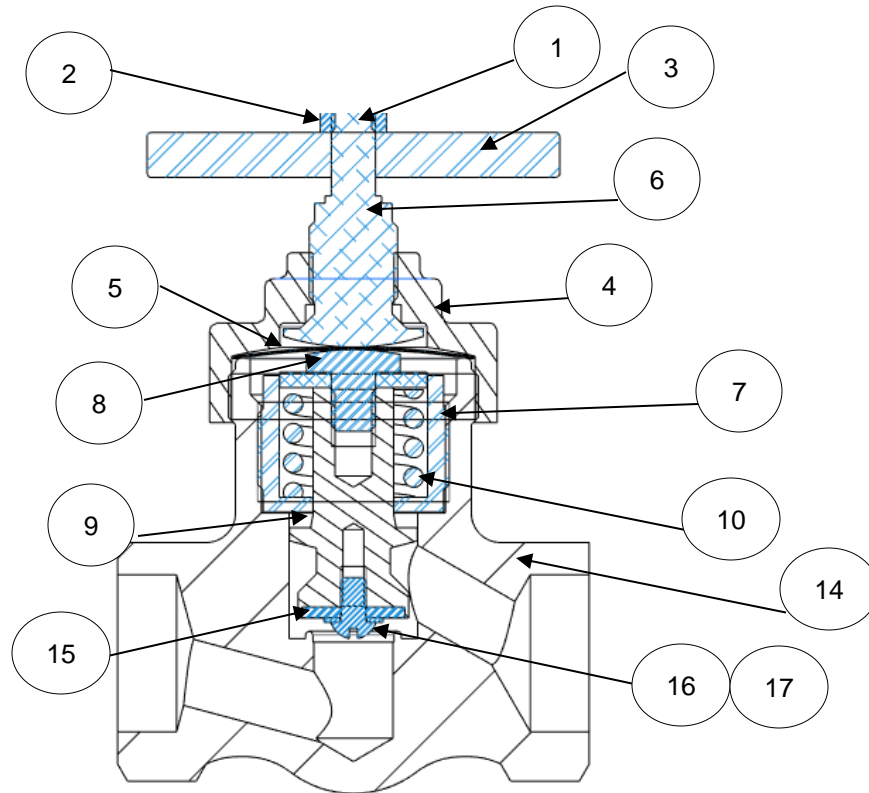
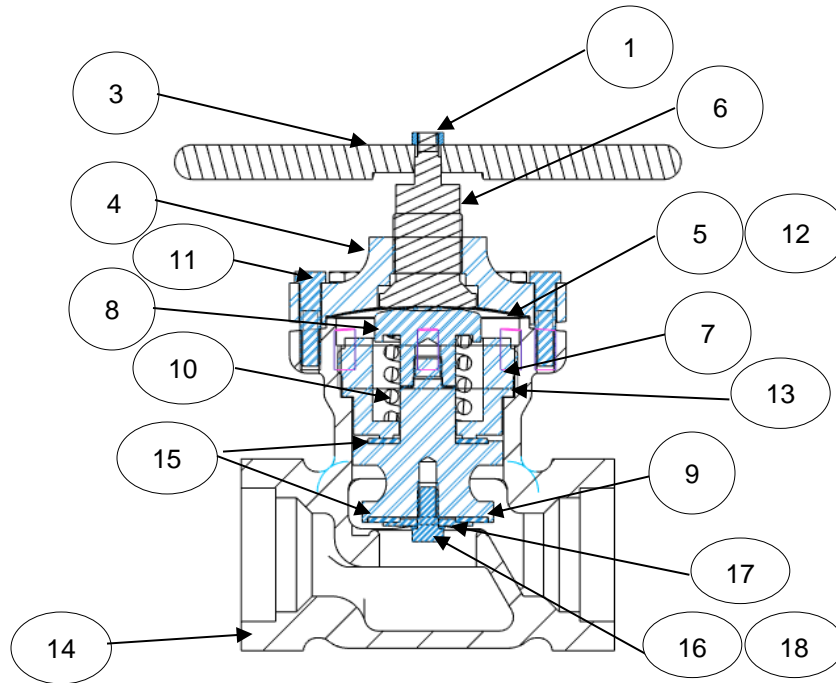

Figure 1: R42 Valve
Figure 2: 456 Valve
Figure 1 applies to R42 Valves and Figure 2 applies to 456 Valves
12.1.1 Figure 1 depicts R42 Valves, Figure 2 depicts 456 Valves